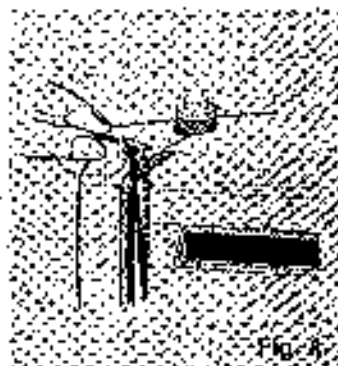

Fig. 4
3) with thread in proper place. Release spool of thread and hook thread into take up lever as shown (Fig. 4).